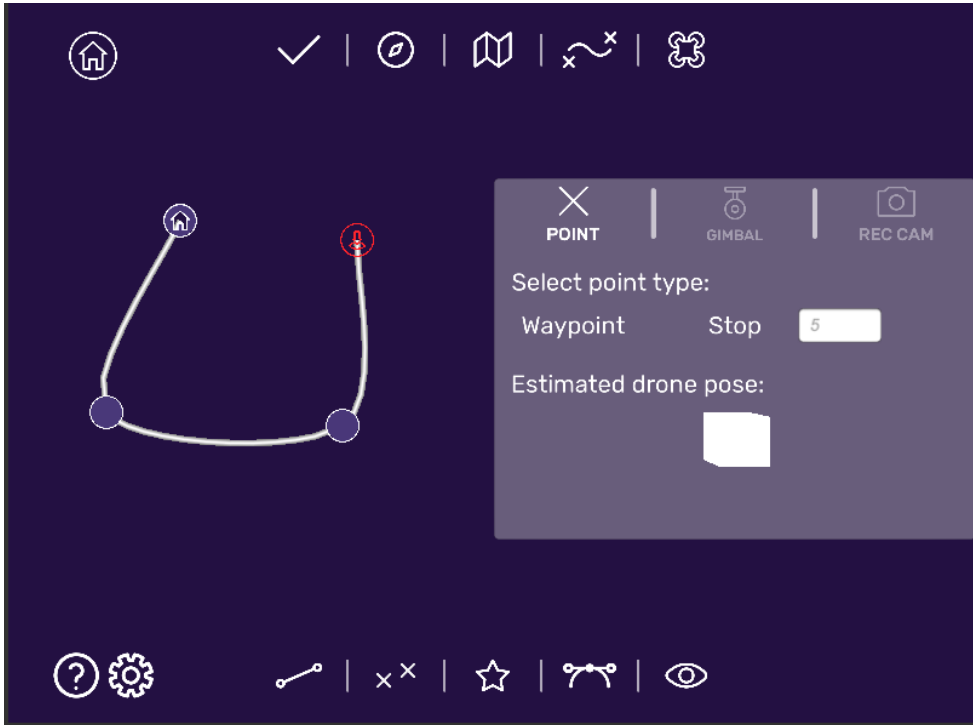

Figure 30. Editing a key point of the Stop Type (the Point tab is selected)
- d. **Stopping Point:** The drone does not move from this key point during an amount of time set by the user. If the Stop attribute is empty, the way point does not stop and follows the plan. This is a common way point. If the Stop attribute has a value, the drone stops at that way point for the amount of seconds indicated. See next Figure 30.